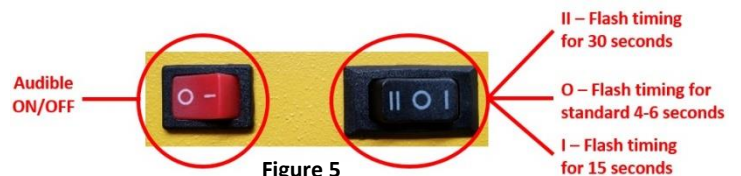

Figure 5
13. Using the Imminent Danger feature (see figure 5 for reference):